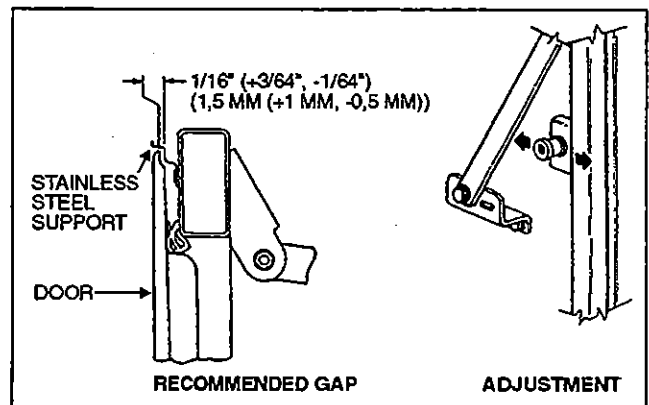

Figure 26
9. Loosen the striker pins just enough to allow them to be moved with a hammer. Working from inside compartment and with the door well-closed (second catches engaged), hit the pin washers to horizontally move the pins and consequently the door, while an outside assistant checks the fit. A gap of 1/16" (+3/64", -1/64") (1,5 mm (+1 mm, -0,5 mm)) between the stainless steel support for the lateral panel and the door panel lip is recommended. Refer to figure 26.